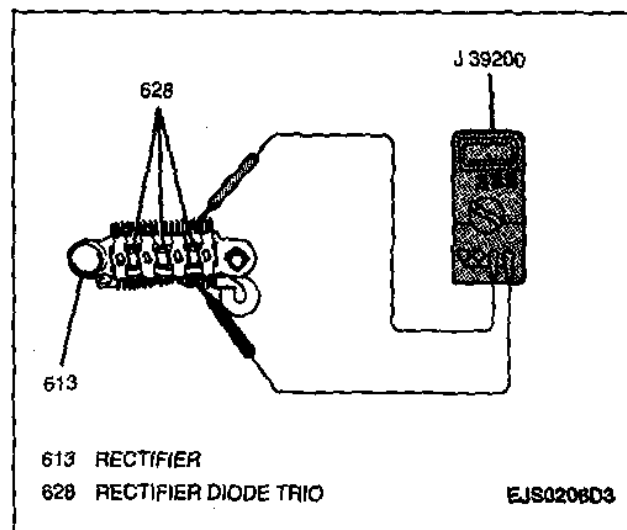

Figure 20—Rectifier Diode Trio Resistance
8. Resistance between both leads of each rectifier diode trio using the J 39200 (Figure 20). Reverse the probes and measure resistance again. If resistance is not less than 5 ohms in one measurement and greater than 5 ohms in the other measurement, replace the rectifier.